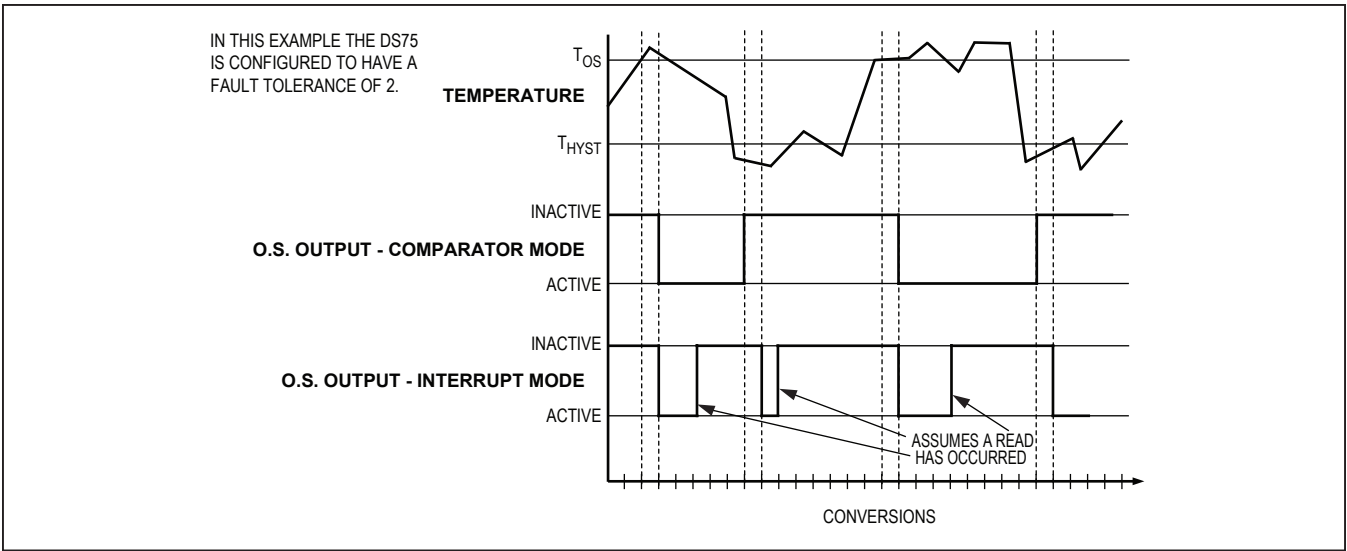

Figure 4. O.S. Output Operation Example
When the thermostat is in comparator mode, O.S. can be programmed to operate with any amount of hysteresis. The O.S. output becomes active when the measured temperature exceeds the T_{OS} value a consecutive number of times as defined by the F1 and F0 fault tolerance (FT) bits in the configuration register. O.S. then stays active until the first time the temperature falls below the value stored in T_{HYST} . Putting the device into shutdown mode does not clear O.S. in comparator mode. Thermostat comparator mode operation with FT = 2 is illustrated in Figure 4.
a consecutive number of times equal to the FT value in the configuration register. Once activated, O.S. can only be cleared by either putting the DS75 into shutdown mode or by reading from any register (temperature, configuration, T_{OS} , or T_{HYST}) on the device. Once O.S. has been deactivated, it will only be reactivated when the measured temperature falls below the T_{HYST} value a consecutive number of times equal to the FT value. Again, O.S. can only be cleared by putting the device into shutdown mode or reading any register. Thus, this interrupt/clear process is cyclical between T_{OS} and T_{HYST} events (i.e., T_{OS} , clear, T_{HYST} , clear, T_{OS} , clear, T_{HYST} , clear, etc.). Thermostat interrupt mode operation with FT = 2 is illustrated in Figure 4.